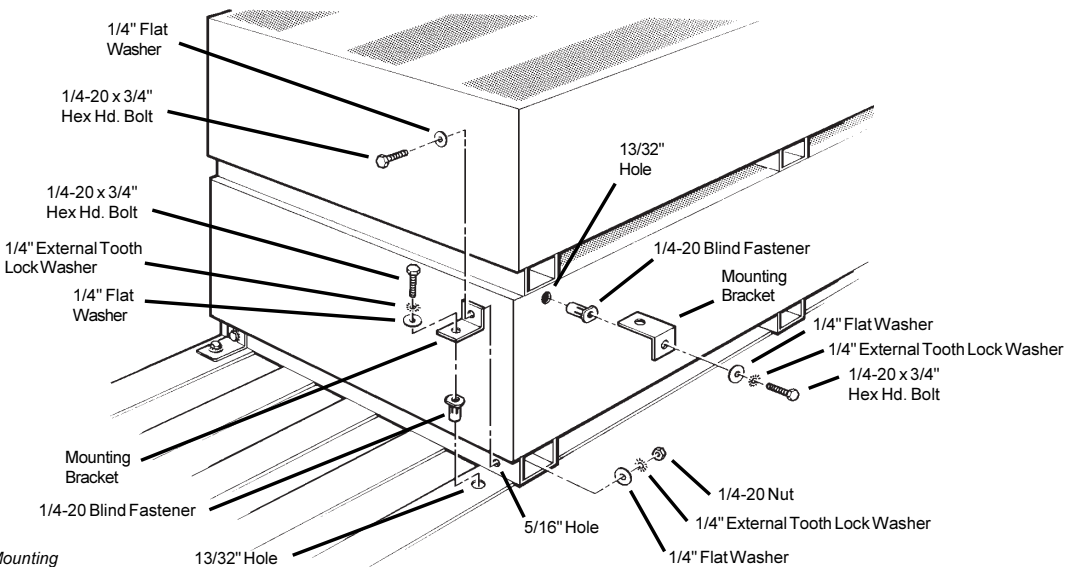

Figure 3. Rear Mounting
2. Go to the rear of the drawer unit (see Figure 3.) and place the Mounting Brackets, as shown, with the longest side against the top of the floor rib. Mark through both sets of holes to the floor and the rear skid.
7. Move the rear of the unit (see Figure 3) and place the long end of the Mounting Bracket into the open end of the rear skid. With the short end facing down, mark through the hole to the side of the lower unit.